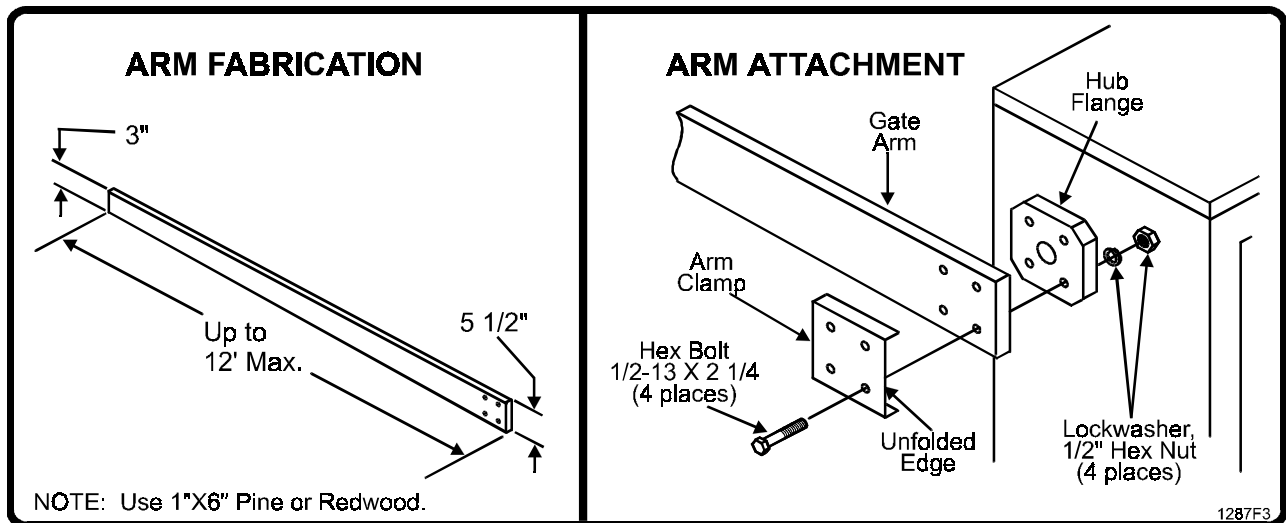

Figure 6. Gate Arm Installation.
2. Cut arm to the desired length (up to 12 feet), then taper to dimensions shown in Figure 6. Tapering the arm reduces weight and reduces warping.
3. Install and tighten the four supplied hex bolts, lock washers and hex nuts (see Figure 6).